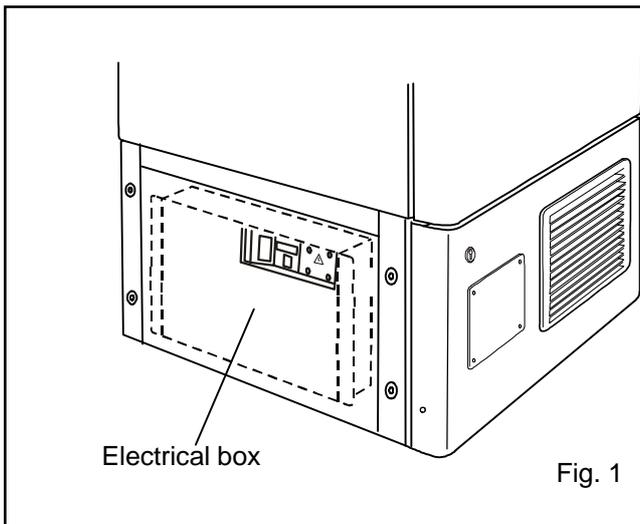

Fig. 1
This unit is provided a nickel-metal-hydride battery for the power failure warning device. The battery is located in the electrical box inside the cover on the lower left side. (Fig. 1)
1. Slightly raise the end of the pen lifter and remove from the pen lifter stopper. Then rotate clockwise as shown in Fig. 1.